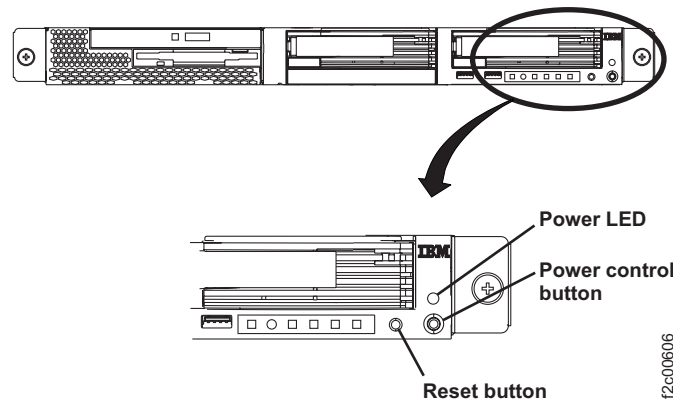
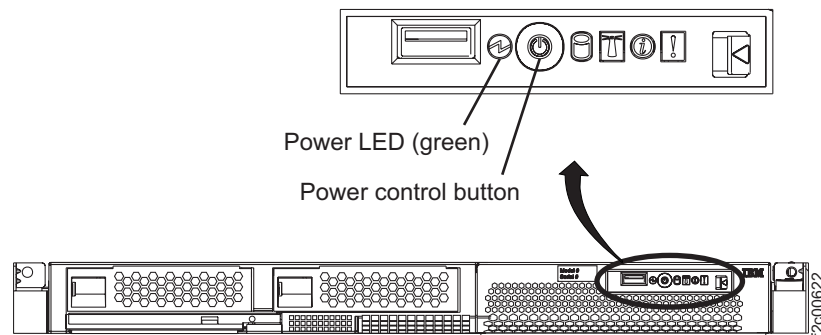

Figure 75. X335 management console server (front view)
Figure 76. X336 management console server (front view)
4. Check the power LED on the front of the server. See Figure 75 (X335 server) or Figure 76 (X336 server).